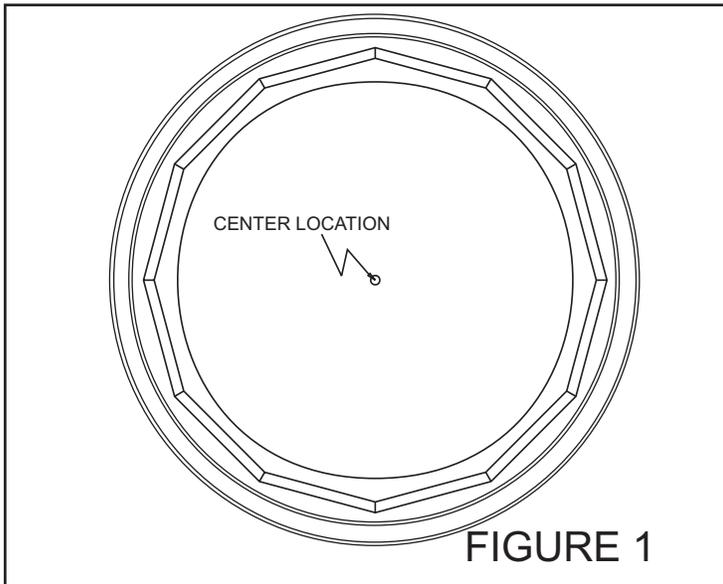

FIGURE 1
A. For manway flange or bung adaptor mounting nipples, locate center indicator in sump base for proper alignment of template. (See Figure 1) After holes are drilled, sand surrounding area with a 40 grit or coarser sandpaper or grinder. Clean sanded surface with Acetone to remove any debris, oils, mold waxes or release agents. Apply a generous bead of Bostik adhesive to the outside of the sump, all around of the hole pattern. Mount sump and tighten nuts in a star pattern to ensure an even seal. Backfill the void between the tank top and the bottom of the sump base with clean fill or pea rock.